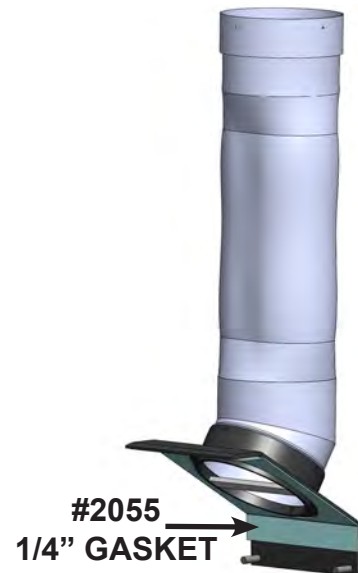

Fig. 11
1. For ease of install; once chimney piping is completely installed and attached to the provided flue collar assembly, leave flue collar hanging roughly 2 feet above the floor of the fireplace. This will enable unit to be pushed back into the fireplace opening without interference and allow for an easy grab through the bypass door opening to install. **(Fig. 11)** Ensure 1/4" gasket is intact on the bottom of the flue collar assembly before installation.